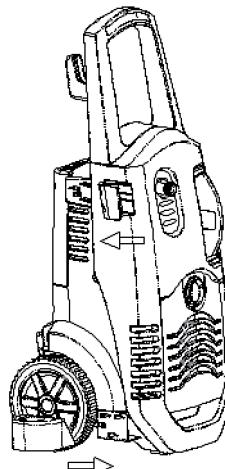

Fig 2.
3. Connect the upper and lower holders for pistol grip/lance (16): Press the lower one to the right and the upper one to the left to fasten (see fig. 2).